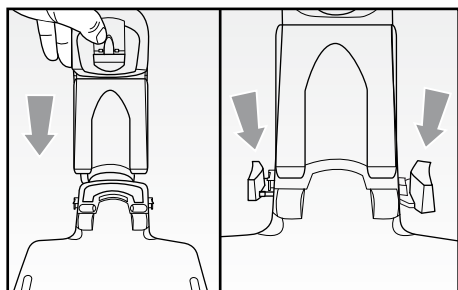

Fig. 4
- Insert the apposite upper side (H) on the recharging base (G) by slightly pressing it until it locks in place. Then, mount the attachments supports (U) on the base (G), Fig. 4.